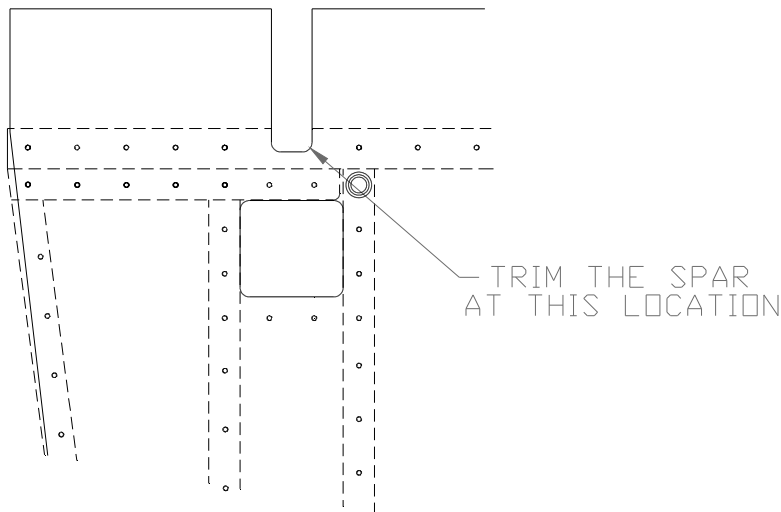

Figure 4.2.4
4) Using the Skin as a drill guide, drill and cleco the Rib/Spar assembly to the Skin. The line drawn on the ribs should be visible through the prepunched holes in the Skin. Work from the Spar to the Trailing Edge of the Skin, use plenty of clecos as you go. Layout and drill #40 three holes on the flanges of EL0318 using the existing holes on the Spar line as a guide. Figure 4.2.4.
6) At the lower section of the Rudder Spar, trim out the area of the Rudder Spar using the Rudder Skin as a guide. Do this both sides. This is to allow clearance for the Rudder Horn. Figure 4.2.4.